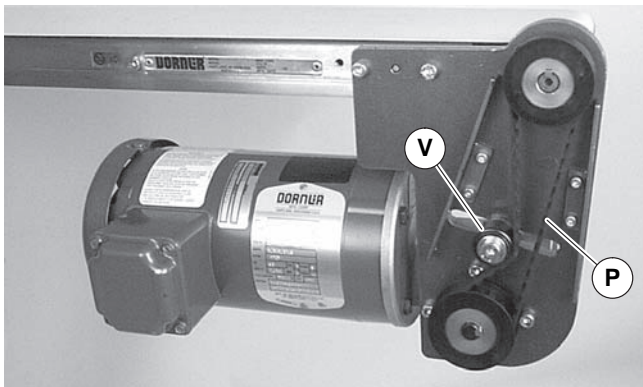

Figure 18
2. Loosen tensioner (Figure 18, item V).